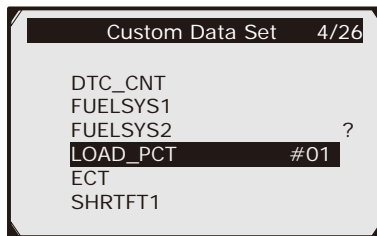

Figure 5.17
3. Use the **RIGHT** button select/deselect data parameters. Selected parameters are marked with solid squares. Press the **OK** button to confirm. (**See Figure 5.17**)